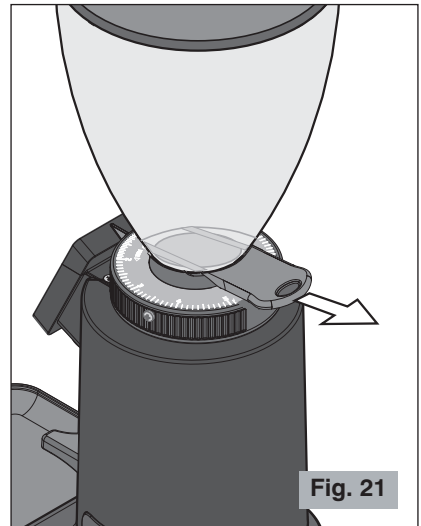

Fig. 21
**Make sure that shutter is completely open (to the last click) (see Fig. 21).**